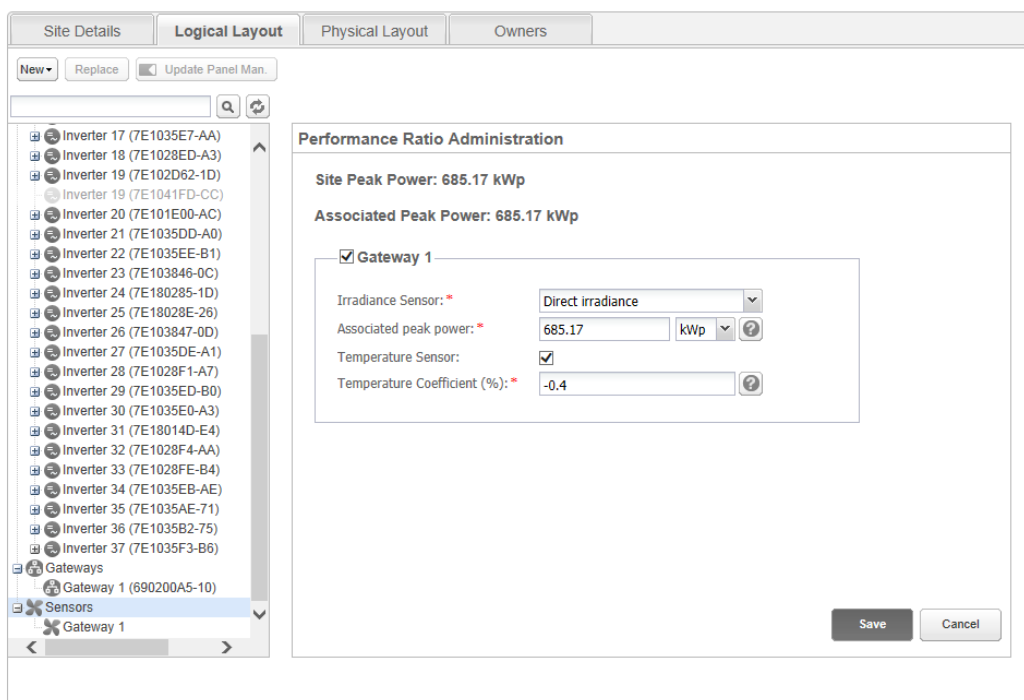

Figure 1: Performance Ratio Administration – single gateway
- 4 Select **Sensors** (see Figure 1). If an irradiance sensor is installed at the site, the Performance Ratio Administration is displayed, showing: